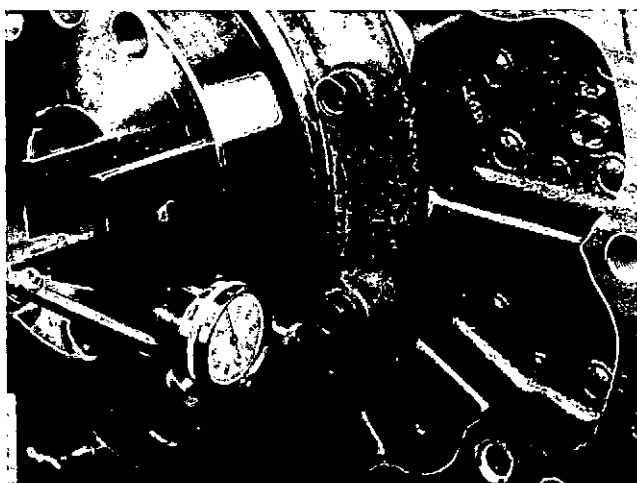

Fig. 14-54 (N114273). Check The Alignment Of The Rear Cover.
4. Check the alignment of the rear cover with a dial indicator gauge, Fig. 14-54.